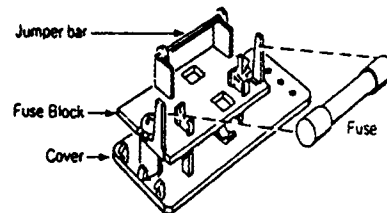

Figure 2.3 - American fuse
- 2.2.1 In **North America** and other locations where the AC supply voltage is 1-- - 120V/60Hz, replace the fuse only with Type AGC, ¼" x 1¼", Fast-Acting, 250 Volt, 1 Amp fuse as per Figure 2.3 below.